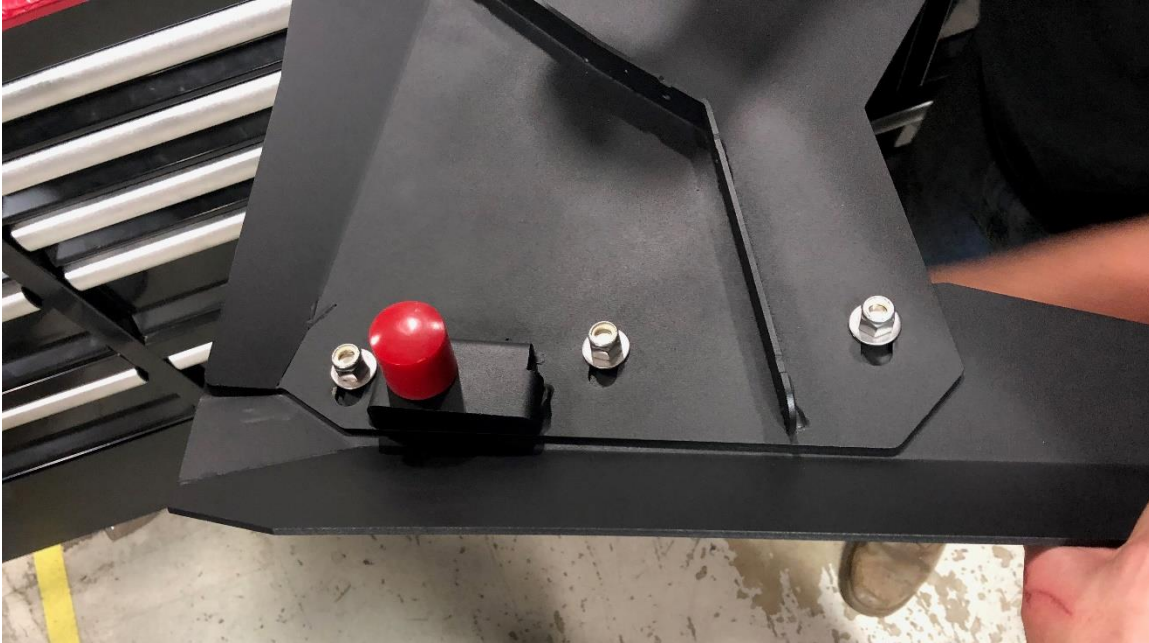

Fig 11
- a. Install and hand tighten the rubber bumpers and 1/2" flat washers to the visor as shown in **Fig 11**.